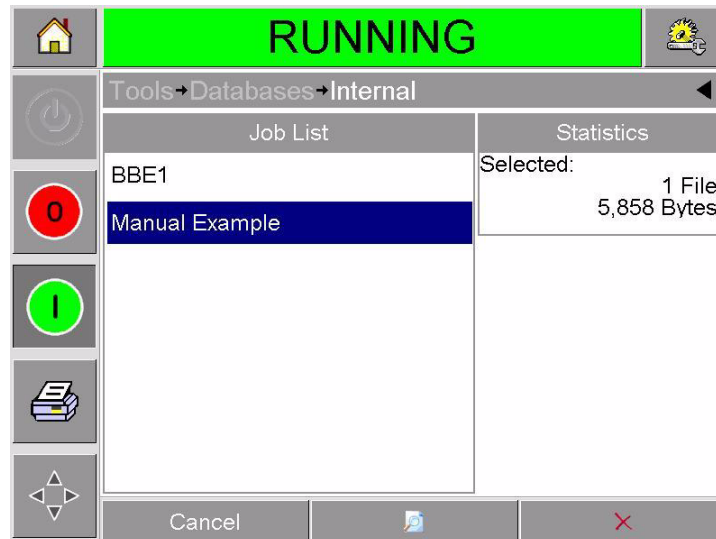

Figure 4-18: Database Data Window
- 2 Touch the Database button on the tools page to open the database page. This page contains a list of all the available print jobs along with details of the space available for the storage of new jobs (Figure 4-18 on page 4-21).